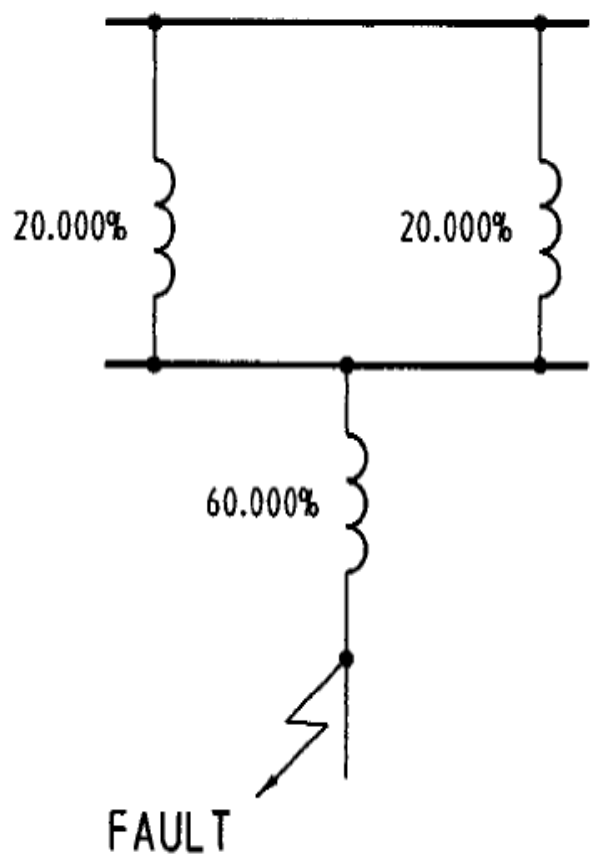

Figure 6
3. Zero Phase Sequence Impedance Network Reduction (Refer Figure 6)